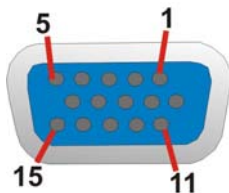

Figure 3-26: VGA Connector
- CN Pinouts:** See **Figure 3-26** and **Table 3-28**